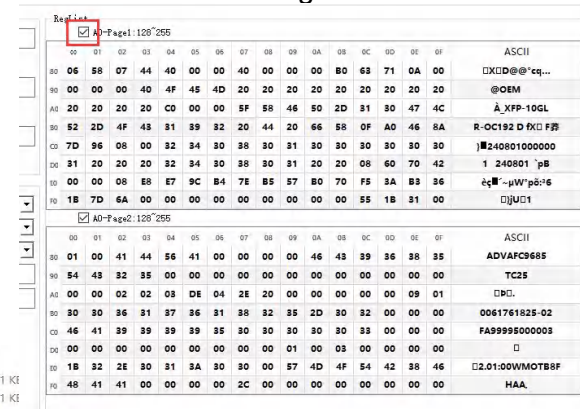

Figure 33
3.1.5 Click to check the box for “A0:Page1:128~255” (Figure 33).